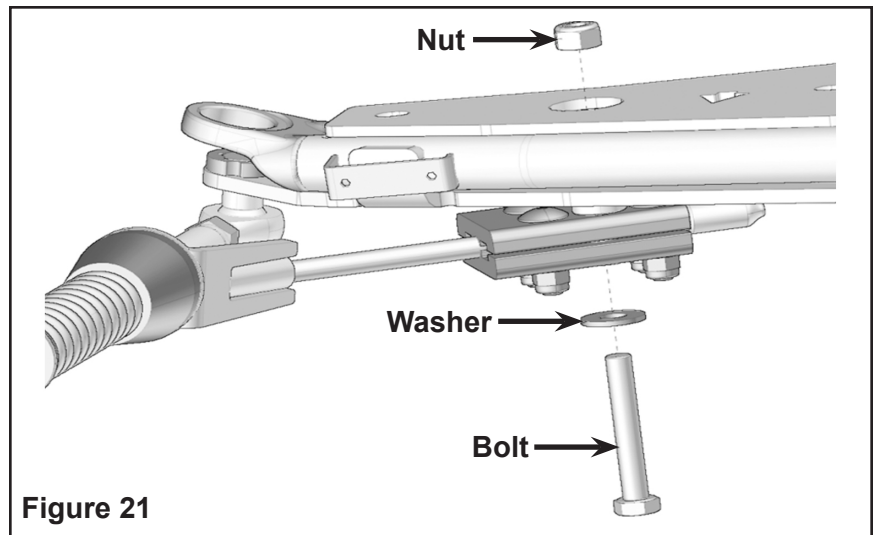
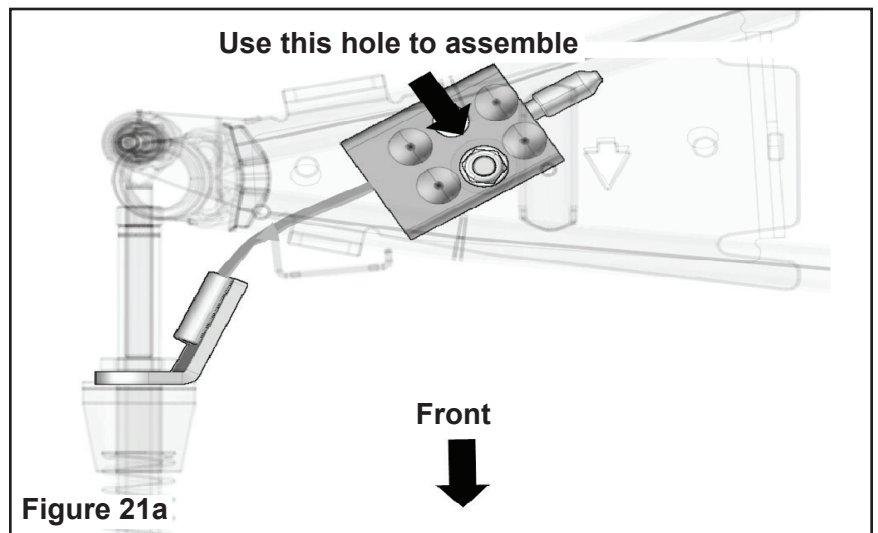

Figure 21
Figure 21a
10. Position aluminium blocks of steering limiter assembly at center hole of bottom part of front anchor bracket. Use bolt, washer and nut to secure the assembly in the center of the anchor bracket. Tighten nut through central opening of top part to 37 ft. lbs. (50 Nm). Figure 21 and Figure 21a.